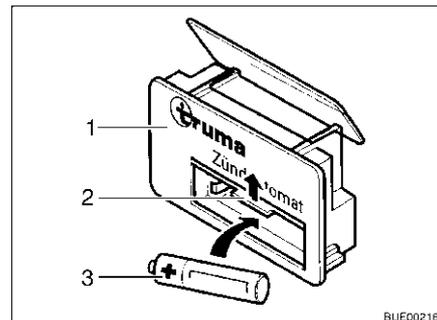

Fig. 138 Automatic ignition
- Push battery chamber cover (Fig. 138,2) on the automatic ignition (Fig. 138,1) upward.
- Insert a new battery (Fig. 138,3) of the same type, correctly aligned (+/-), into the battery chamber of the automatic ignition. Only use temperature resistant (+70 °C) and leak-proof Mignon batteries.